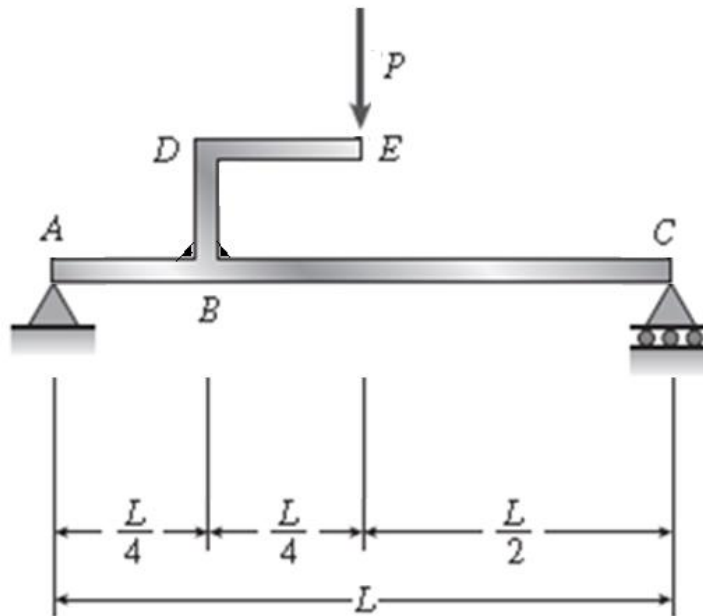

Figure Q1
1. A simply supported beam ABC with a rigid bracket BDE as shown in Figure Q1, is subjected to a vertical load P (equals to 7 kN) at the end of the bracket (point E).